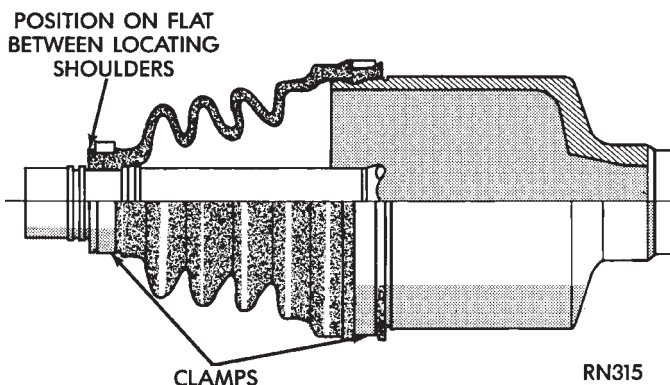

Fig. 31 Boot and Clamp Positioning
(8) Position the sealing boot into the tripod housing retaining groove (Fig. 31). Install seal boot retaining clamp evenly on sealing boot.